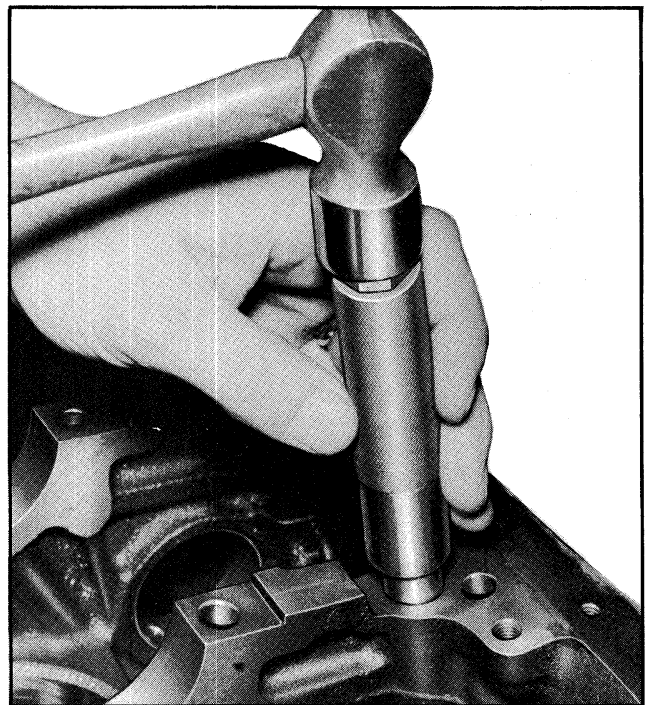

Fig. 6-78 Installing Distributor Lower Bushing
1. Using tool J-9535 with driver-bolt in driver handle or other suitable tool, install new bushing (Fig. 6-78).